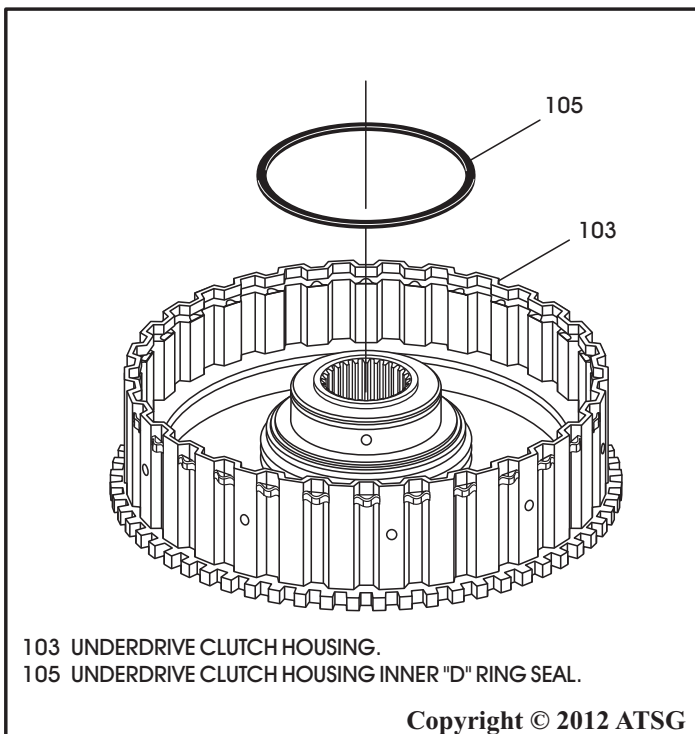

Figure 145
4. Install new underdrive clutch inner "D" ring seal in underdrive clutch housing, as shown in Figure 145, and lube with a small amount of Trans-Jel®.